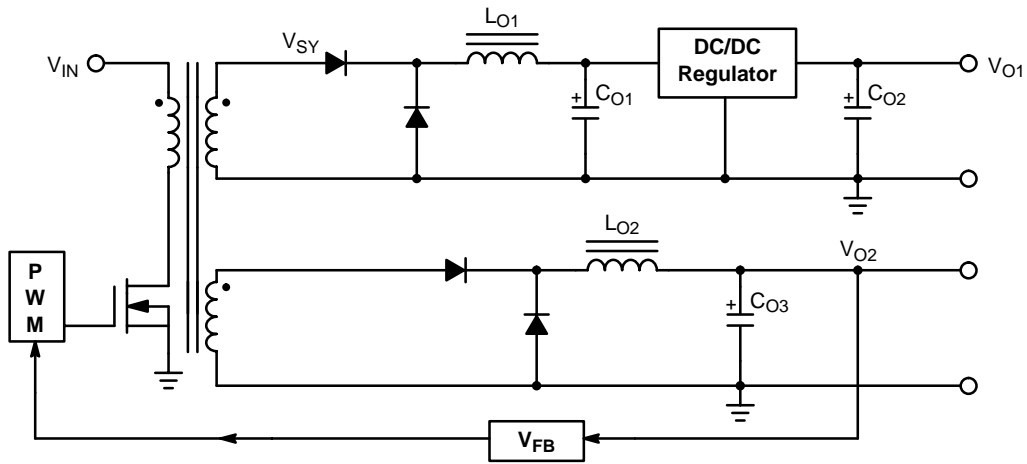

Figure 2. Switching Post Regulator
2. A Step-Down Buck Regulator, Figure 2, can be used as a post regulator. Efficiencies up to 90% can be achieved by using this method. This solution looks very attractive in the low and medium power range